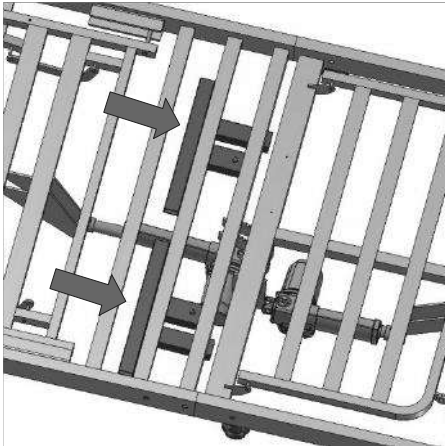

Figure 7: Transport bracket storage
17. The transport brackets can be safely stored on the bed frame to prevent loss of the brackets. To do so, raise the bed to its full height. The transport brackets can then be attached to the fixing points on the underside of the bed as indicated (*Figure 7*). Ensure that each bracket is locked in place.